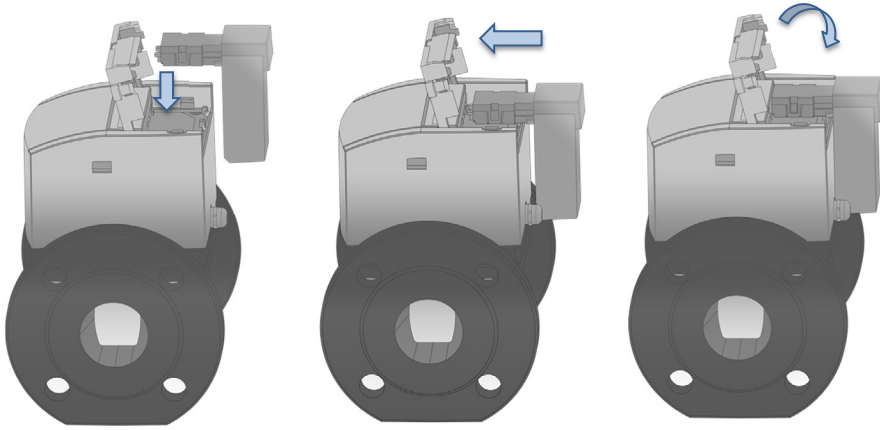

Fig. 30: Inserting module, pushing it into place and closing the module lid
Step 3: Mounting of a communication module, as shown in Fig. 30.